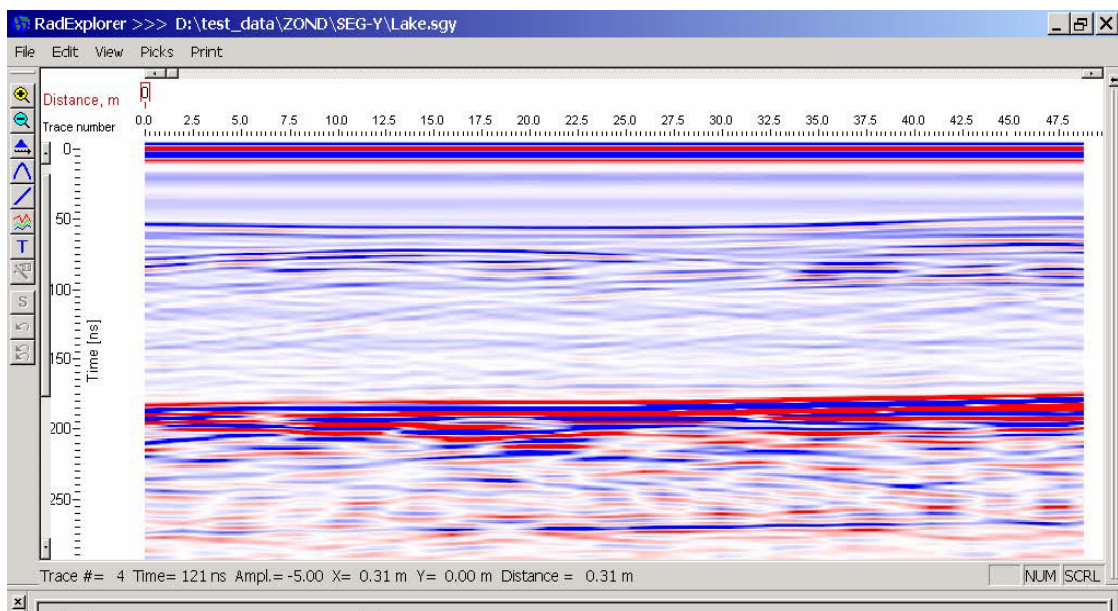

Fig. 5.4.6 – in red-white-blue scale
- “R/B” – in red-white-blue scale (see Fig. 5.4.6).